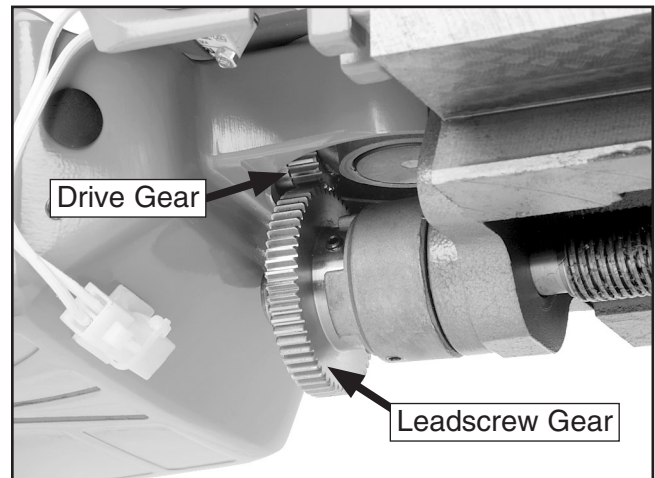

Figure 7. Power feed drive gear and leadscrew gear properly meshed.
- Position the assembly from **Step 8** onto the table bracket so that the teeth of the drive gear and the leadscrew gear mesh exactly, then tighten the mounting bracket cap screws and the table bracket hex bolts (see **Figures 7–8**).